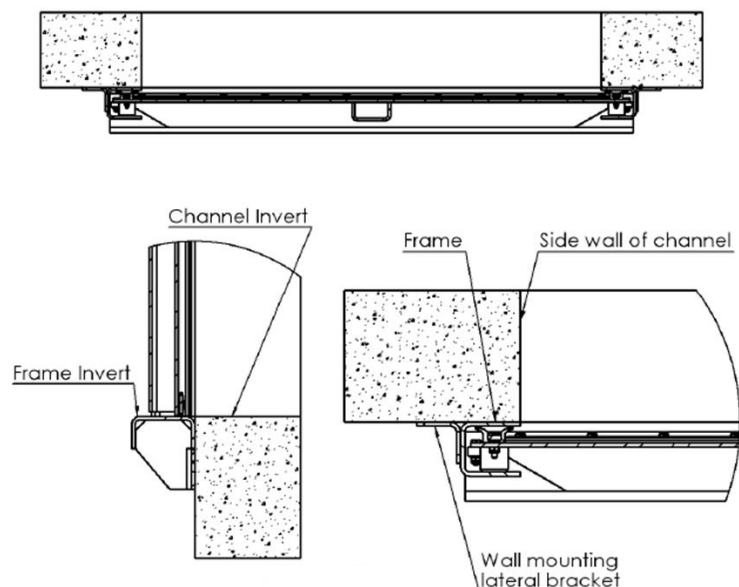

Figure 10
- For the Wall Mount (WM) mounting option, the CC channel gate is installed by means of mechanical anchor bolts and construction sealant (Sikabond/Sikaflex 11FC or equivalent). Note that as standard, anchor bolts and construction sealant are not supplied with the gate. For detailed information about the type, size and quantity of the required anchor bolts, or any other specific installation notes or materials, please refer to the notes on the 'General Arrangement Drawing'.
- Position the channel gate against the wall and line up with the opening (See Figure 10). The gate shall be in the closed position